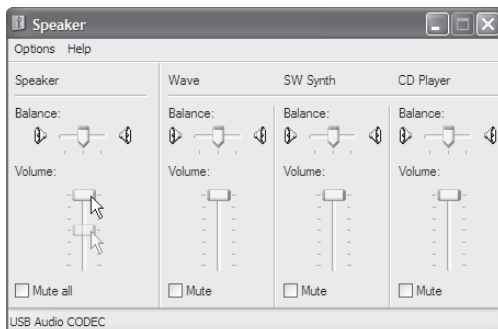

Figure 7
6. The volume can then be be set by dragging the Volume slider (figure 7).